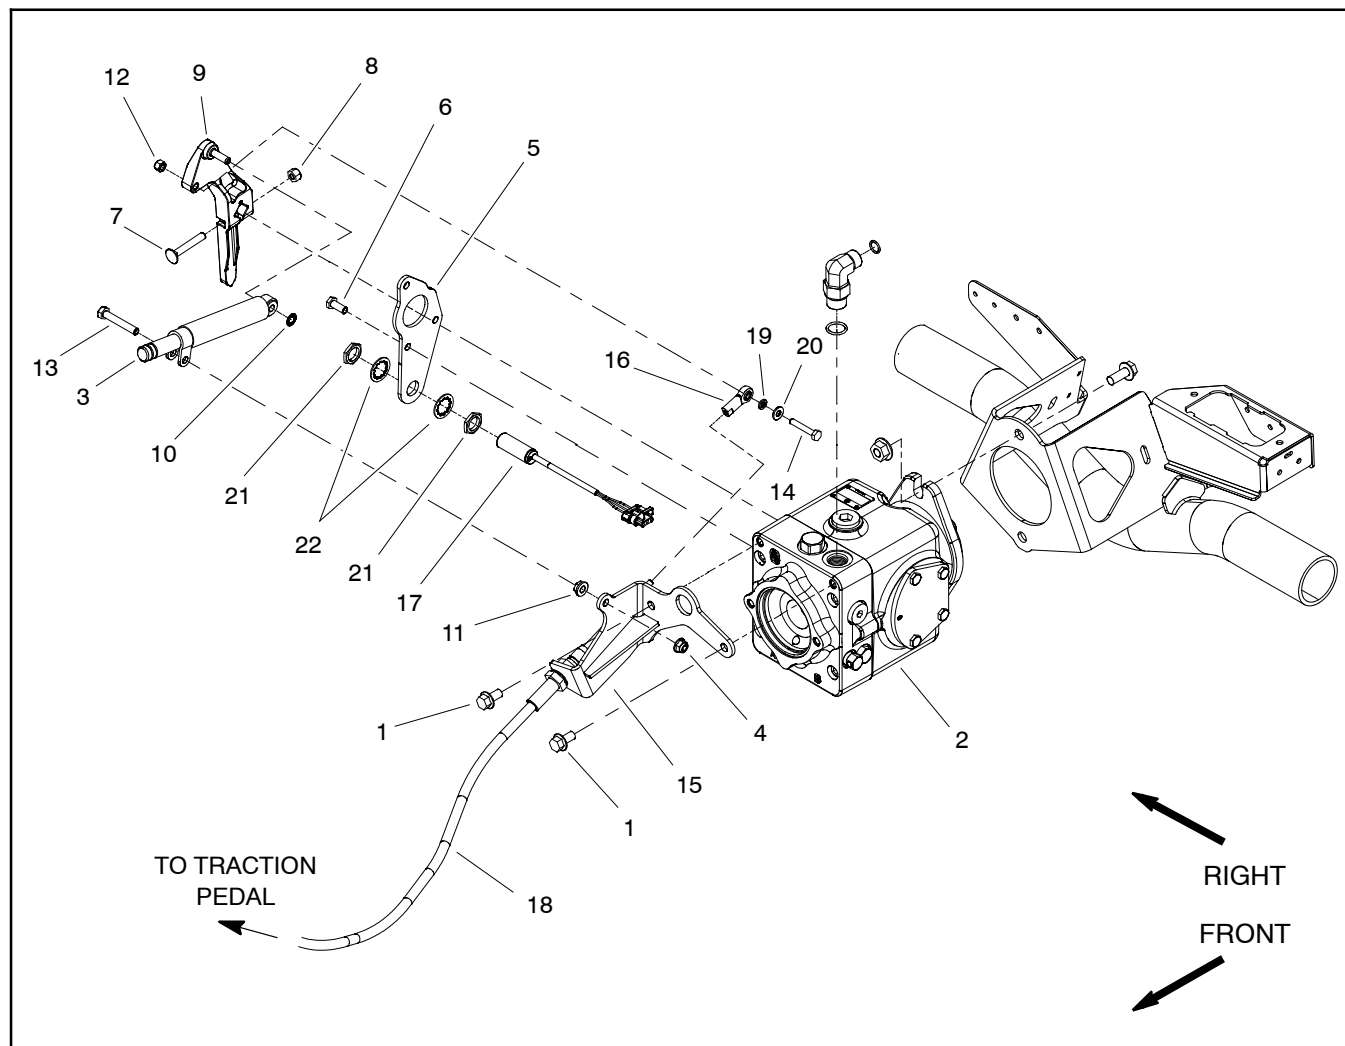

Figure 53
Disassembly (Fig. 53)
2. Remove components from piston (traction) pump control assembly as needed using Figures 53 and 54 as guides.
Assembly (Fig. 53)
1. Install removed components to piston (traction) pump control assembly using Figures 53 and 54 as guides along with the following:
A. If traction neutral switch (item 17) was removed from pump plate, adjust location of switch so that there is from **0.094" to 0.100" (2.4 to 2.5 mm)** clearance between the head of neutral switch and the piston (traction) pump lever (Refer to Traction Neutral Switch in the Adjustments section of Chapter 5 - Electrical System for additional neutral switch information).